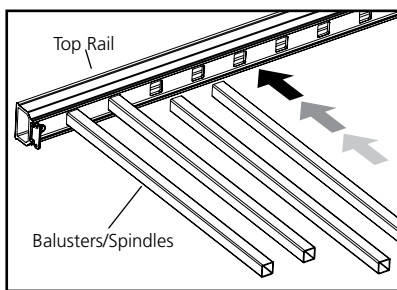

Figure 16
15. Fully engage a baluster (or spindle) into the square holes on the underside of the top rail (Fig 16).